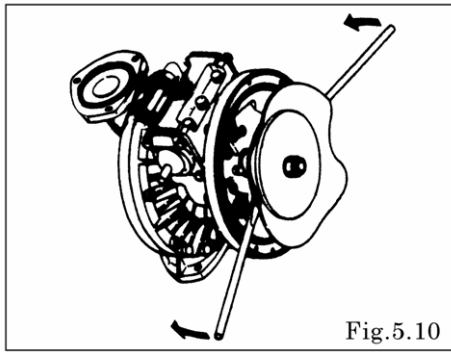

Fig.5.10
- Grip the inside center disk using crowbars and draw it to the opposite side, then turn the diaphragm over. (exclude B\_H, B\_S type) [Fig.5.10, 5.11]